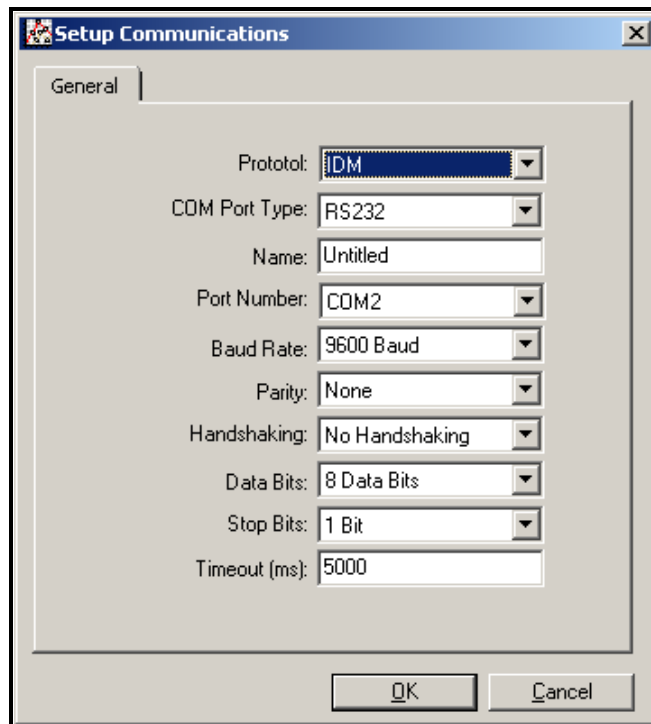

Figure 34: *Setup Communications* Screen
- Click on the *Communications Port* option to select it. The *Setup Communications* screen appears similar to Figure 34.